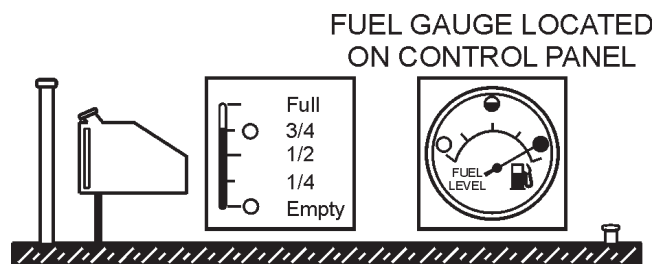

Figure 5. Full Trailer Tank
3. **NEVER overfill trailer fuel tank** – It is important to read the trailer fuel gauge when filling trailer fuel tank. **DO NOT** wait for fuel to rise in filler neck. See Figure 5.